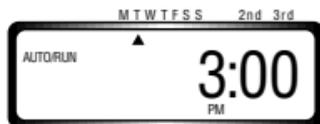

Figure 9
- Press **AUTO RUN**. The Auto/Run, current time and day is displayed with the : blinking. [See Figure 9] The timer is now programmed and watering will begin automatically.